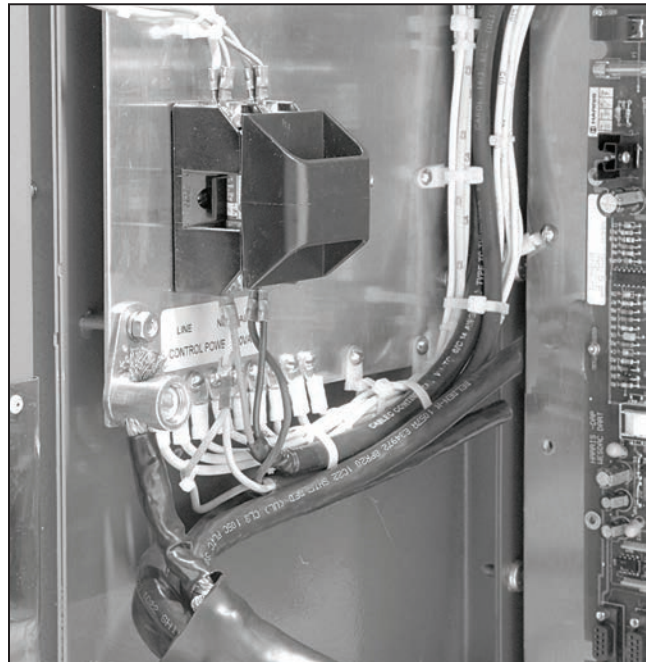

Figure 29. Fuse block.
STEP 3. To connect external control power, connect the line and neutral to the fuse block. See the label under the fuse block. Refer to Figure 29.